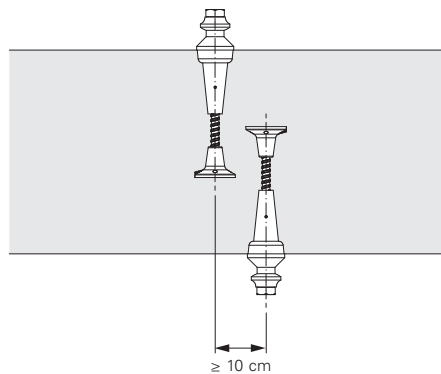

Fig. B1.02
- With $h_1 + h_2 < d$, the anchor positions must be horizontally or vertically offset. (Fig. B1.02 + B1.03)